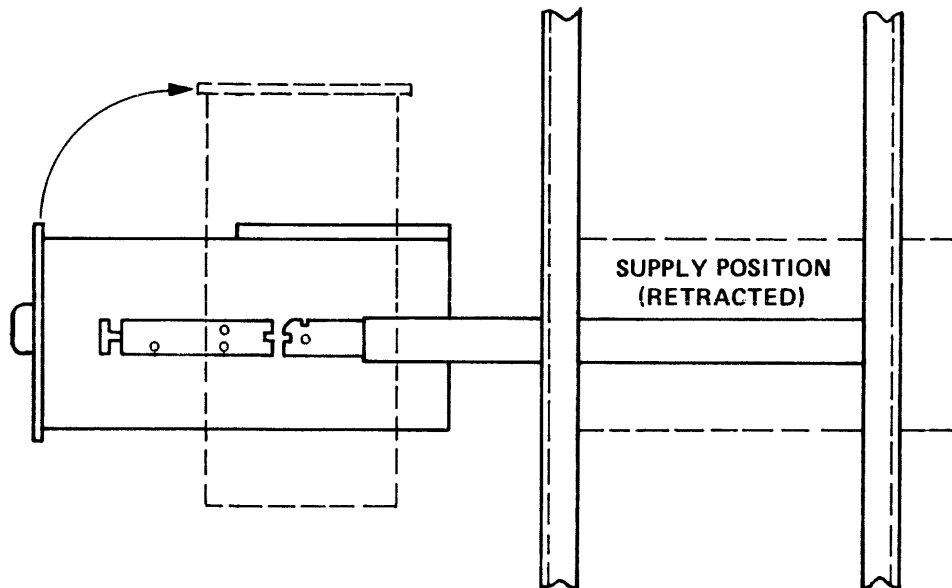

Figure 6-8. Supply Movement Range
- e. Place the supply in the slides by lifting from both sides and inserting the chassis sections into their tracks in the intermediate sections. Push inwards until the extension locks engage, then check to ensure that the supply may be freely rotated upwards for access to the underside. Note that the rotation locks on each side must be released to lift the supply. Check also for freedom of travel into and out of the frame. Refer to figure 6-8.